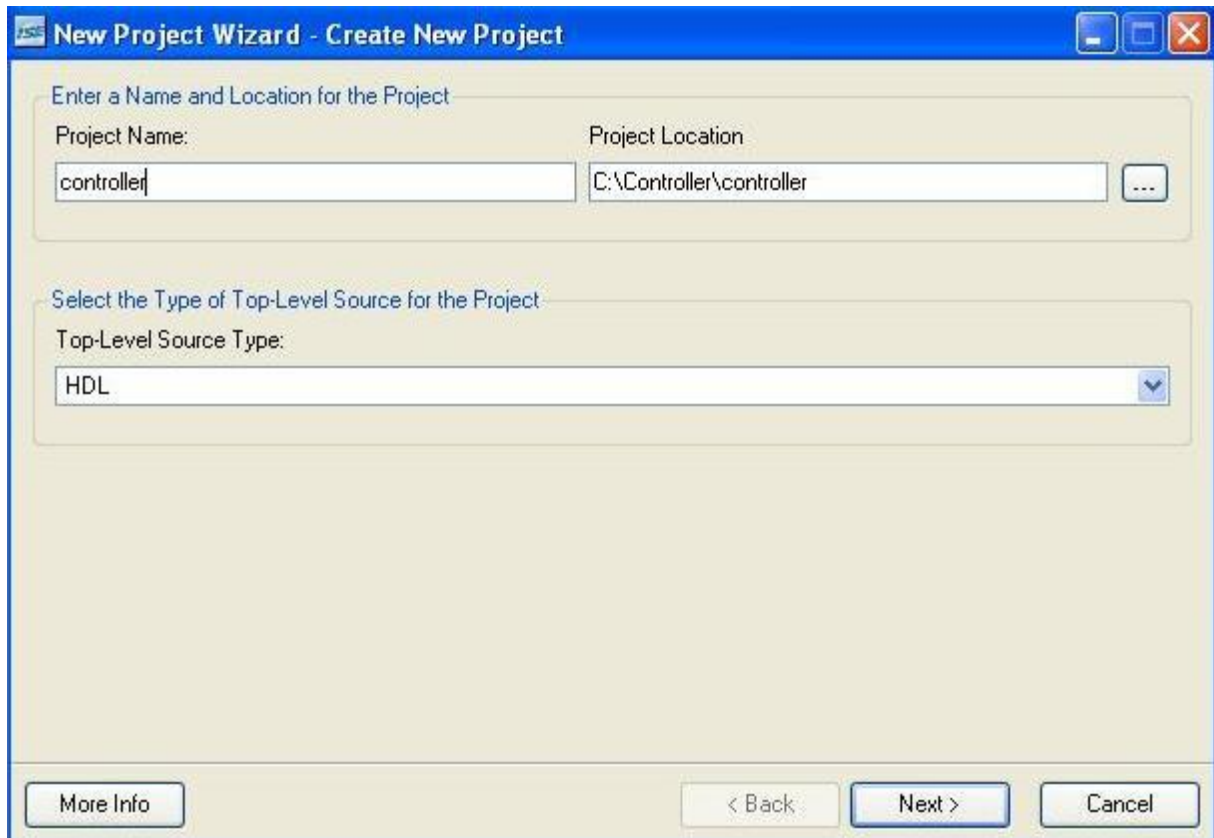

Fig 3.3: Creating a New Project
1. Open Project Navigator and select **File → New Project**. Fig 3.3 refers to the naming of the new project and selecting its location.